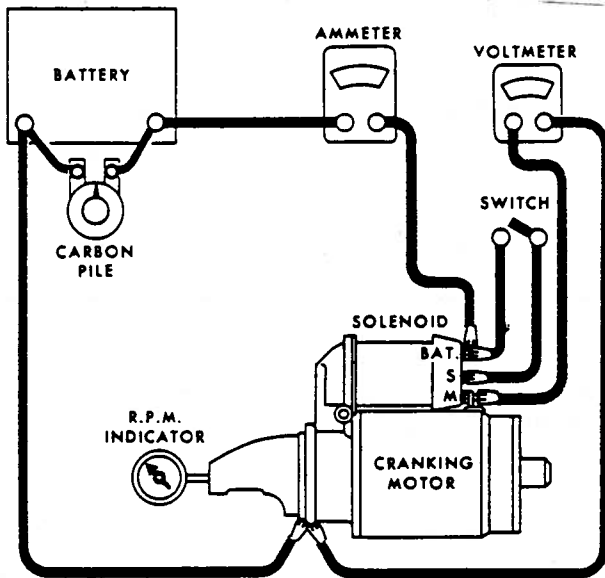

Figure 4-1. No-Load Test Circuit
- c. Connect motor and armature in series with fully charged 12 volt battery and switch in open position from switch battery terminal to solenoid switch terminal. Refer to figure 4-1. Use carbon pile to reduce battery voltage.
1. Min Amps - (75)
2. Max Amps - (175)